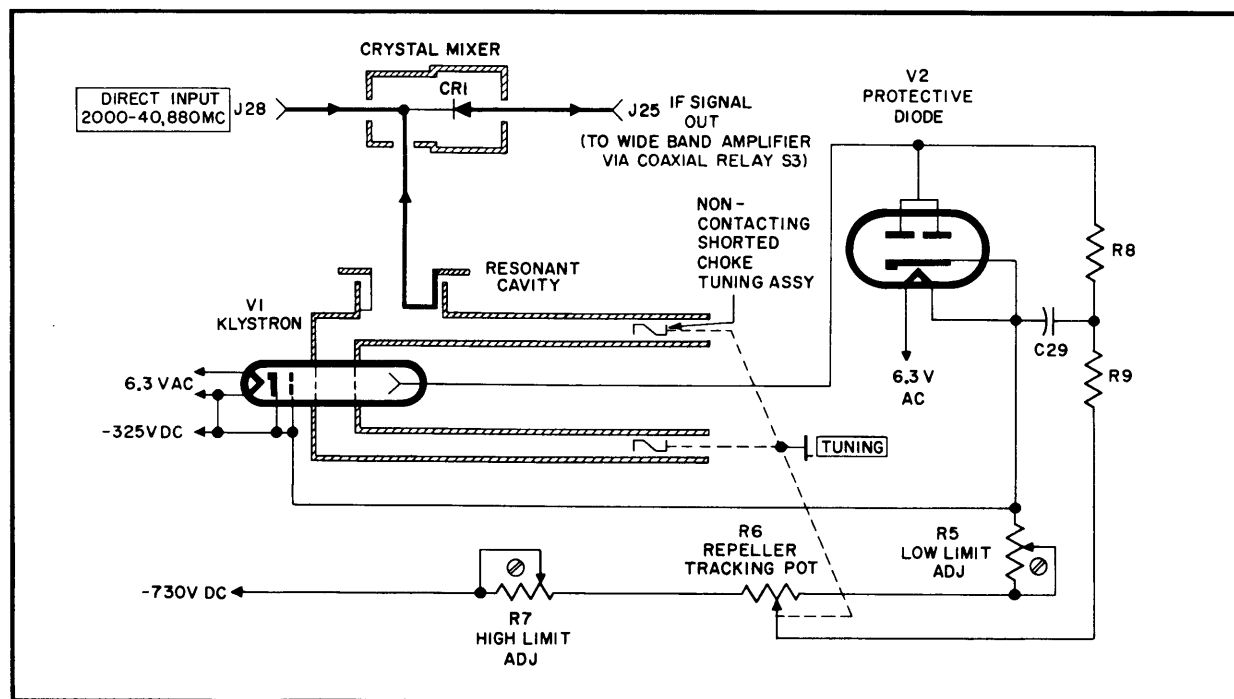

Figure 4-4. Klystron Local-Oscillator, Simplified Schematic
a. Reference to figure 4-4 shows that the cathode of klystron V1 is fixed. The reflector voltage is varied by the tracking potentiometer, as the operating frequency is changed. The maximum reflector voltage is limited by the reflector supply and by the setting of HIGH LIMIT ADJUST control R7. The minimum reflector voltage is determined by the setting of LOW LIMIT ADJUST control R5. Thus, the reflector is always maintained negative, with respect to the cathode.